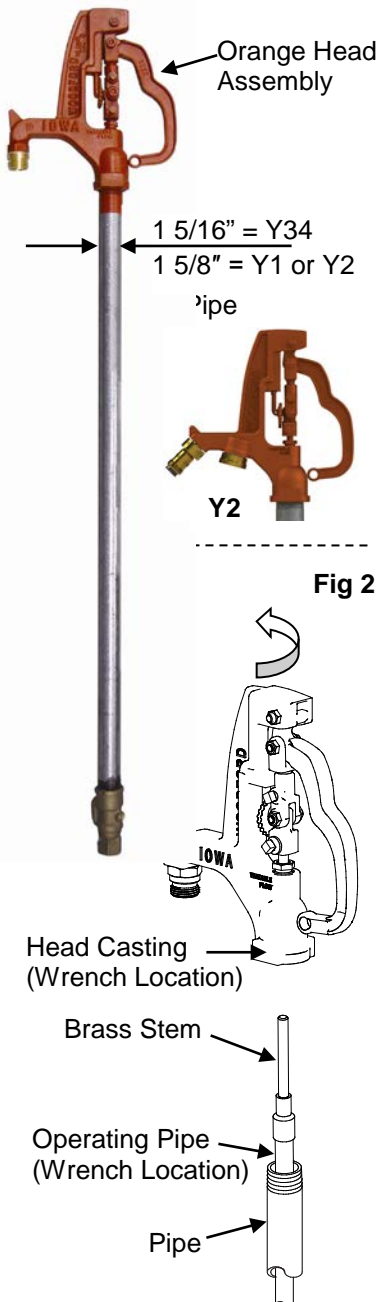

Fig 2
4. Remove head casting using two pipe wrenches, one on head casting and the other on the pipe. Fig 2
5. Remove operating pipe by gripping pipe with vice grips and prying upward. **DO NOT attach vice grips to brass stem. Damage to stem may cause leakage around packing nut.** Fig 2